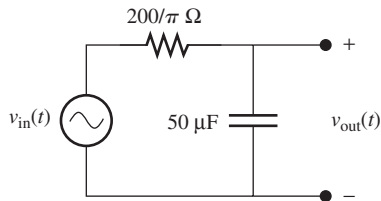

FIGURE P7.18 Circuit for Problem 7.18.
- 7.18** (B) Sketch the magnitude plot of the transfer function for the circuit shown in Figure P7.18.